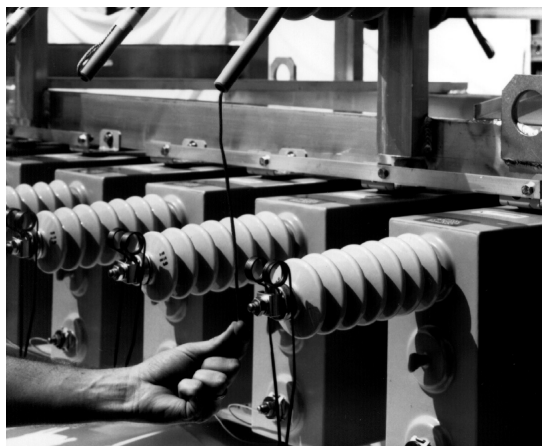

Figure 5.
- B. Straighten the fuse link leader such that there are no entanglements (Figure 5).